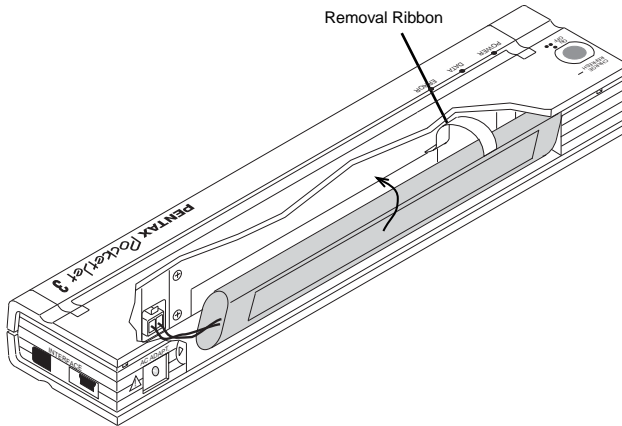

FIGURE 12. Placing the battery inside the battery compartment
4. Grasp the battery removal ribbon, which is attached to the inside of the battery compartment. See Figure 12.